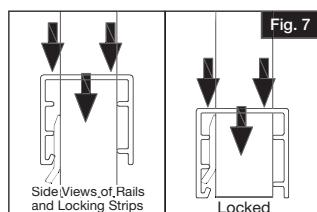

Fig. 7
Option A. For 2.5" aluminum posts only – Take mounting jig out of rail kit and align on top of trim as shown. Pre-drill two holes for bottom bracket. Measure 32" up from the top of the trim and make a mark. Align bottom of jig with the mark and pre-drill 4 holes (Fig 7).
g. Stand rail section up and fully lock balusters into the rails. Place one foot on the top of the bottom rail, between the second and third baluster while at the same time placing a hand under the bottom of the top rail between the second and third baluster. Push with foot and pull with hand until locking is completed. You should hear a snap as the strip locks into the rail. Repeat this process for the middle and the end of the panel (Fig. 7 & 8).
- Once proper fit is ensured, mark the bracket positions at all four (4) locations (Fig. 7) and remove brackets from the rail panel.